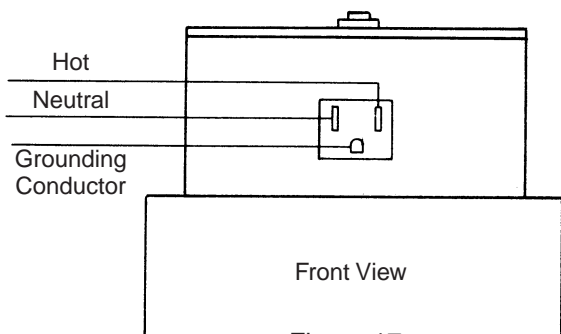

Figure 17
9. Remove junction box cover and install the required bushing into the 3/4 in. Knock out. With the supply voltage turned off, route three (3) wires into junction box for connections. (See Fig. 17.)